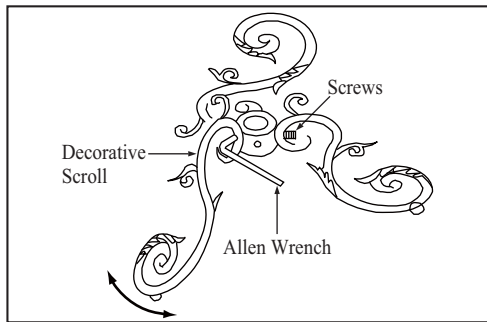

Figure 6
3. Unfold the decorative scroll arms and space them evenly. Secure assembly by tightening the screws with the Allen wrench provided. (Fig. 6)